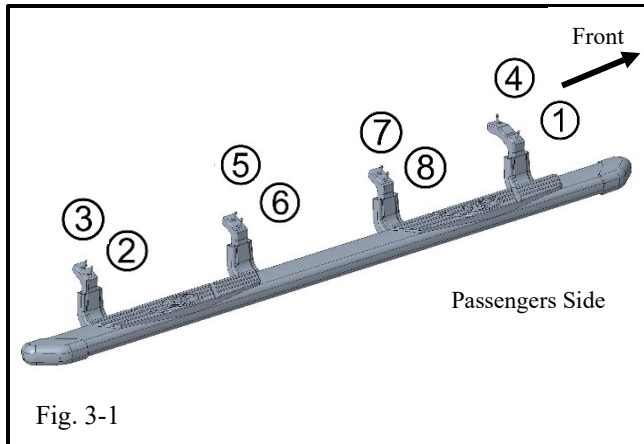

Fig. 3-1
(a) In numerical order, tighten (but do not torque) the bolts as shown in Fig. 3-1.
(b) Tighten (but do not torque) the remaining bolts as indicated in Fig. 3-1.
(a) Follow the tightening sequence in Fig. 3-1 to torque the “outside bolts” ① through ④ .
(b) Follow the tightening sequence in Fig. 3-1 to torque the “inside bolts” ⑤ through ⑧ .